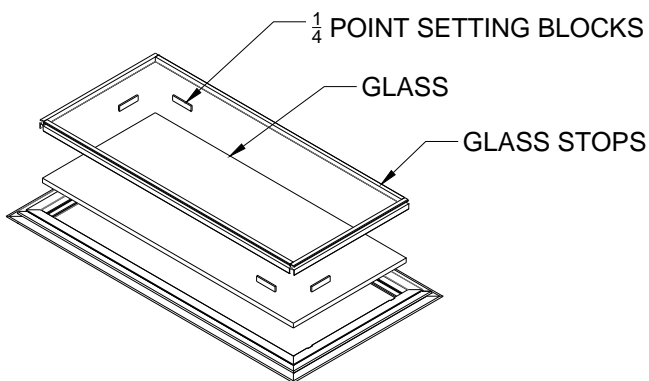

Figure 12:
- Awning and Fixed:** at 1/4 points into the top, bottom, and sides of the frame (Figure 12).